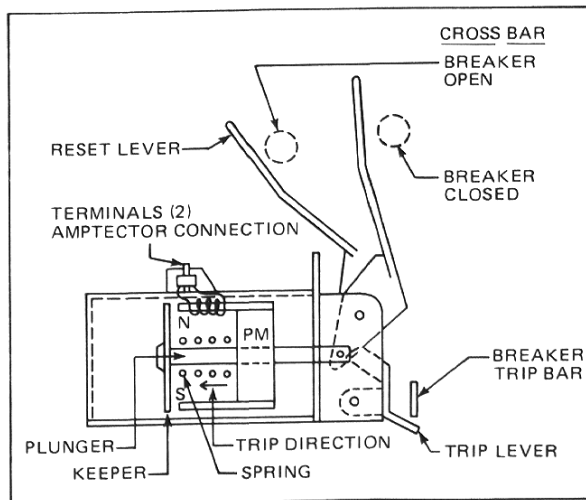

Fig. 6 Actuator Diagram
When the actuator receives a tripping pulse from the Amptector, it releases a mechanical force to trip the breaker. The actuator is made up of a permanent magnet and a spring (see Fig. 6). When the breaker is open, the cross bar pushes the reset lever. The reset lever moves the plunger out, and the plunger then compresses the spring and pulls the keeper until it contacts the pole pieces of
3. Operate the actuator a few times. Alternately pull back on the reset lever (see Fig. 6) and then trip by applying 9 to 12 volts D-C (be sure to use correct polarity) to the terminals.